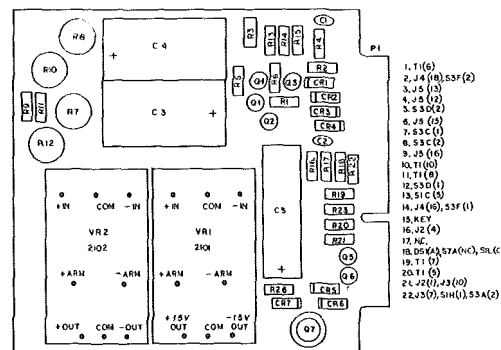

Figure 5-1. Power Supply Assembly (A1) Adjustments
b. Adjust potentiometer R8 for a voltmeter indication of  $+6V \pm 100mV$ . See Figure 5-1. for the location of this adjustment.
d. Adjust potentiometer R10 for a voltmeter indication of  $+15V \pm 100mV$ . See Figure 5-1. for the location of this adjustment.
b. Adjust potentiometer R7 for a voltmeter indication of  $-6V \pm 100mV$ . See Figure 5-1. for the location of this adjustment.
d. Adjust potentiometer R12 for a voltmeter indication of  $-15V \pm 100mV$ . See Figure 5-1. for the location of this adjustment.